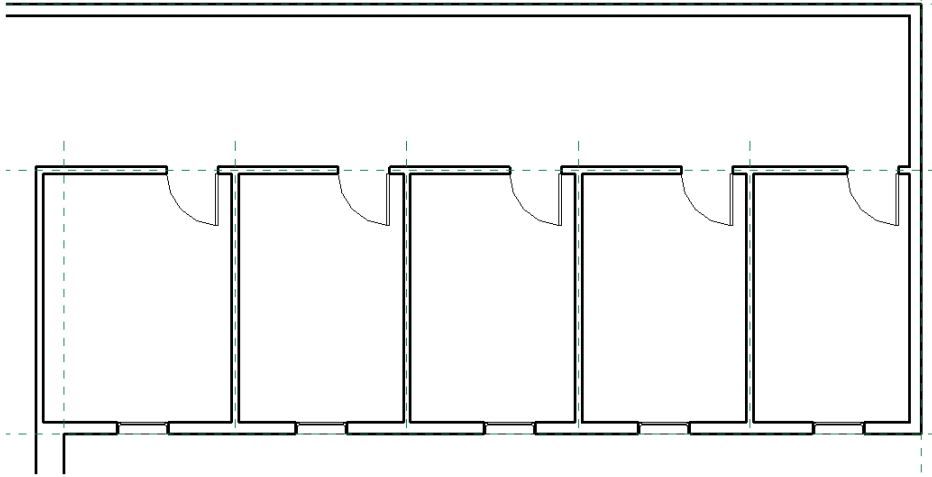

FIGURE 1.16 The Windows for the rooms
7. Repeat the same steps to place windows along the exterior wall for each of the interior rooms. When you finish, the results should appear similar to Figure 1.16.